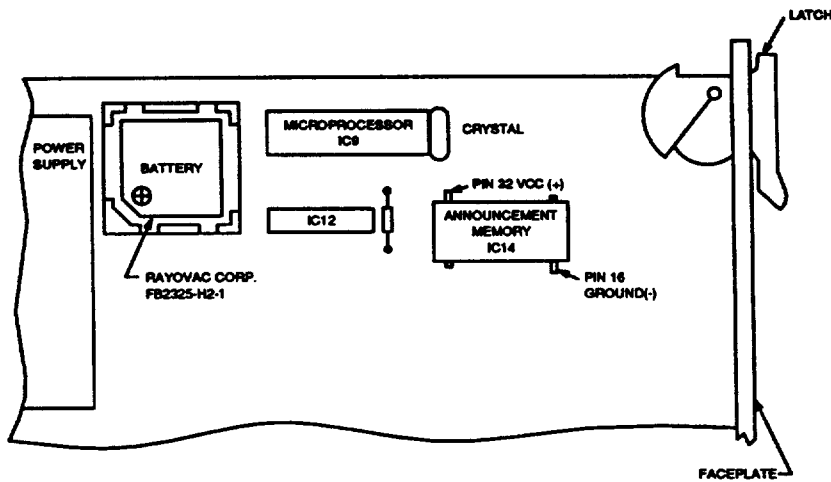
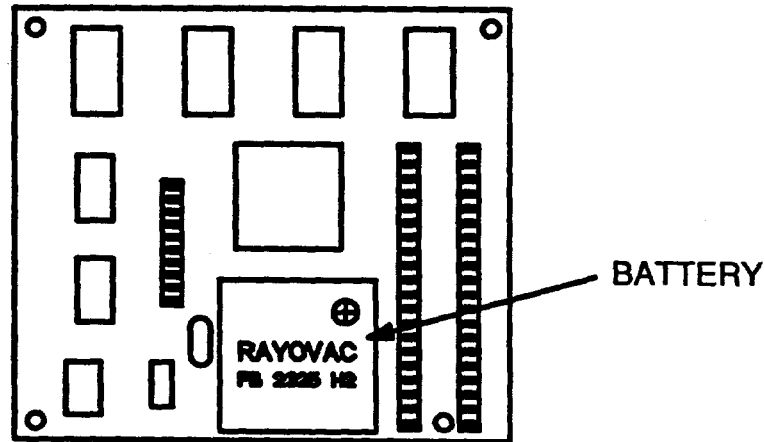

Figure 11. Locating Backup Battery and Announcement Memory on ALD2
Figure 12. Locating Backup Battery and Announcement Memory on ALD5
- (4) Before installing a new ALD2/ALD5 circuit pack in the 14A, check that the memory backup battery is installed in the battery socket. (See Part 9C and Figure 11 for the ALD2 and Figure 12 for the ALD5.)
- (5) Place the removed circuit pack or its replacement in the apparatus mounting tracks and slide it forward until it is fully mated with the 940A connector. Hold the spring-loaded latch forward until the pack is fully mated. Release the latch and check if it is in the latched position. (Diagnostics will be automatically run on the 14A.)
- (6) When an ALD2/ALD5 circuit pack is installed, the display will first read "STAND BY." During this time, a diagnostic test is being run. If the diagnostic test passes, the display will read "LOC MODE." If the display flashes on and off RECORD, a voice alarm will be generated. This indicates that the announcement memory contains no speech data and a recording must be made before the ALD2/ALD5 will operate. Press the SELECT pushbutton. The voice alarm will clear, the display will stop flashing, and the display will read "SIT SEL." At this time, a recording must be made. (See Part 8H.)
9.02 The memory backup battery on ALD2/ALD5 prevents the loss of the data stored in the announcement memory when power to 14A is interrupted. In normal operation, the battery will not become discharged. However, if the ALD2/ALD5 is unpowered for long periods of time (several years cumulative), the battery will eventually discharge and the data in the announcement memory will be lost. In order to check the battery, the ALD2/ALD5 must first be removed from the housing. (See Part 8E.) Place the ALD2/ALD5 on a nonconductive surface with the faceplate facing to the right. Locate pins 32 and 16 of the announcement memory. (See Figure 11 for the ALD2 and Figure 12 for the ALD5.) Using a battery operated DC voltmeter, measure the voltage between pin 32 (+) and pin 16 (-) of the announcement memory. If the voltmeter reads less than 2.00 V DC, the battery should be replaced.